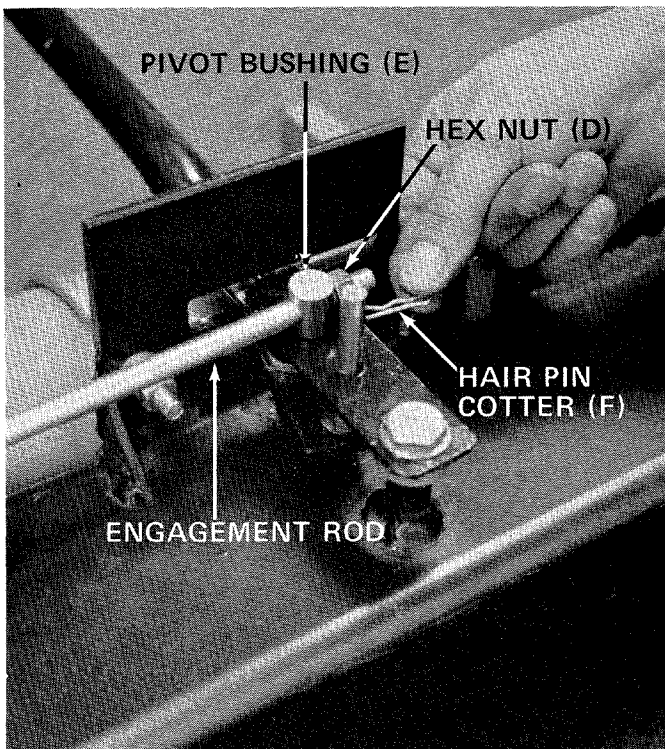

FIGURE 8
- Thread pivot bushing (E) on end of engagement rod so there is approximately 1/2" of thread showing. Engagement handle must be at 90° to beam. Insert pivot bushing (E) into engagement handle. See figure 8.